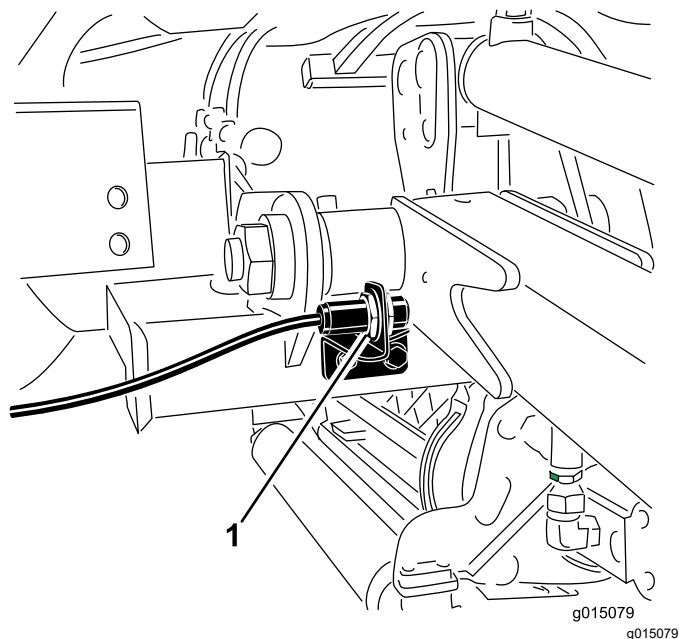

**Figure 40**
2. Insert a tube or similar object onto the long spring end to relieve the spring tension during the adjustment (Figure 40).
3. While relieving the spring tension, remove the bolt and locknut securing the spring actuator to the bracket (Figure 40).